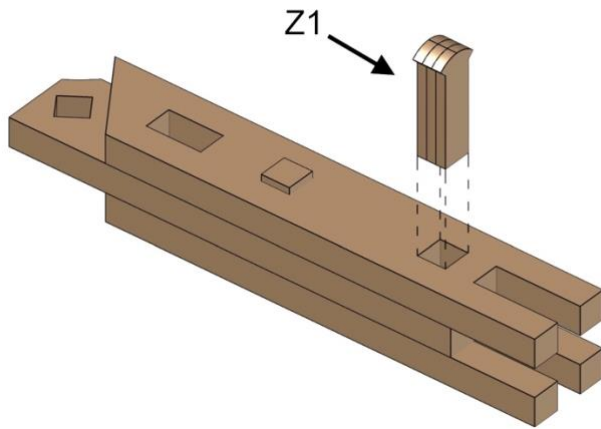

Fig. 37
- Align parts exactly as shown in *Fig. 37*.